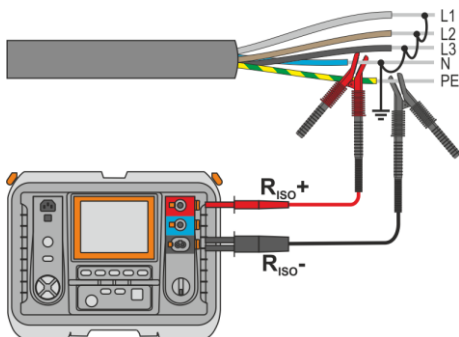

Fig. 4.3. Measurement of an unshielded cable
- In case of power cables measure the insulation resistance between each conductor and other conductors shorted and grounded (**Fig. 4.3**, **Fig. 4.4**). In shielded cables, the shield is also shorted.